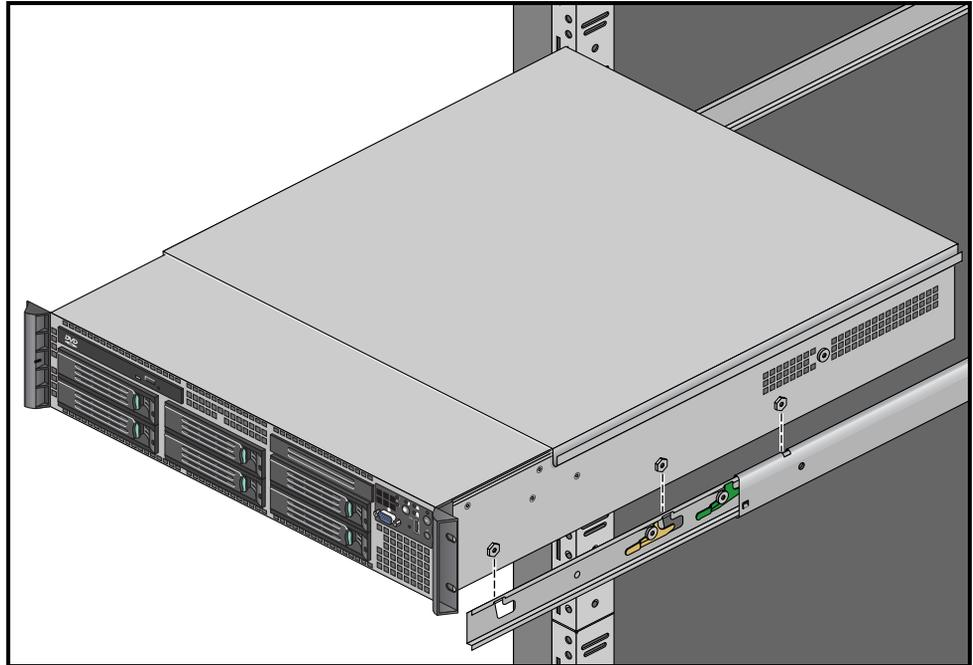

Figure 1-8 NAS Gateway Slide Rail Mounting Stud Positions
3. Using two people, align and insert the gateway's mounting studs into the component mounting channels on the two slide rails, see Figure 1-8 for an example.